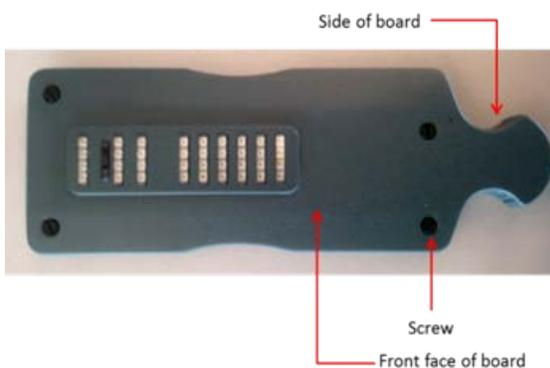

Figure 31. Front face of Sensor
- 3 Use another wipe to dislodge debris from screw heads on the front face of the Sensor if necessary (Figure 31).
To charge the Display, connect the DC-in jack to the Display (Figure 31 ①) and plug the AC adapter into any AC 110/220V outlet (Figure 31 ②).